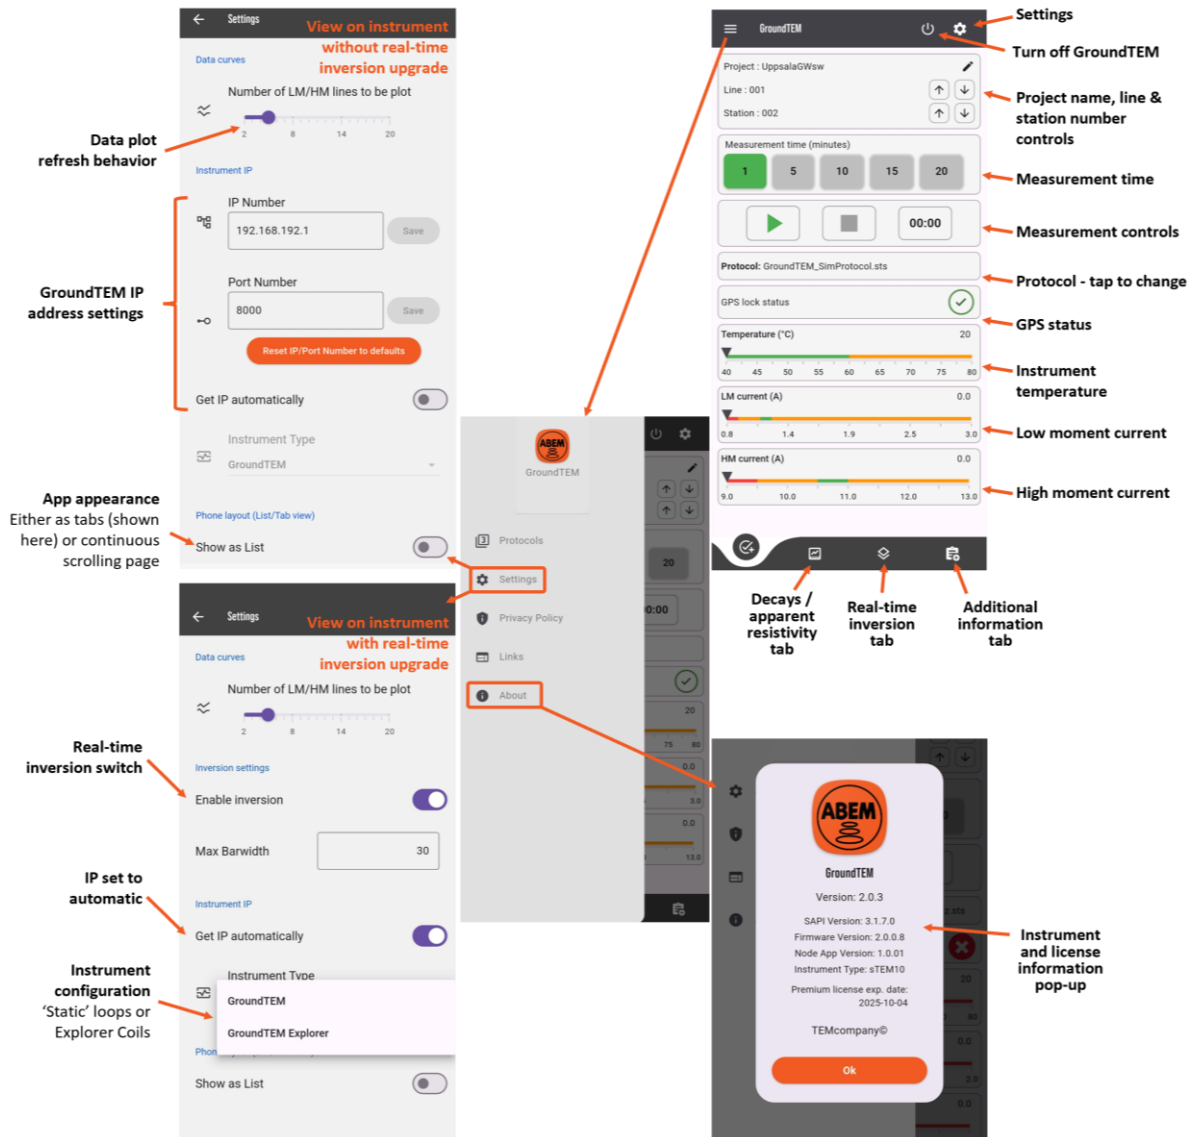

Figure 18. GroundTEM App environment. Version 2.0.3
- Open the GroundTEM App, which should display the controller interface as shown in Figure 18, if properly connected.
Figure 18 explains the interface of the GroundTEM App.
- b) **Inversion is turned off** – go to **Settings** and make sure inversion is enabled (Figure 18).